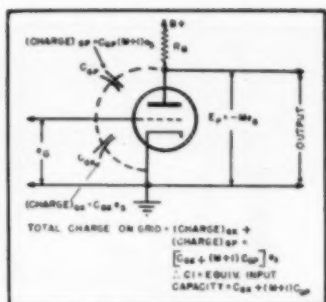

Fig. 2. Miller effect increase in input capacity due to amplification of the tube with the resistive plate load.
Fig. 3. Method of determining the output impedance of an amplifier. (A) Equivalent plate output circuit of the amplifier shown in Fig. 2. (B) The effective output circuit at the middle frequencies.